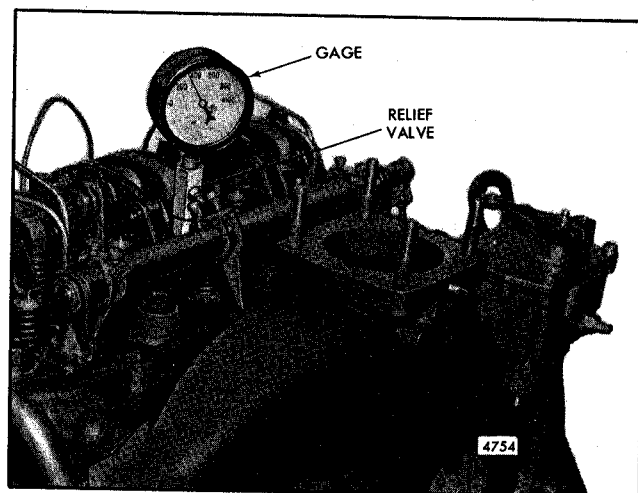

Fig. 1 - Checking Compression Pressure
3. Remove the injector and install the adaptor and pressure gage from Diagnosis Kit J 9531-01 (Fig. 1).